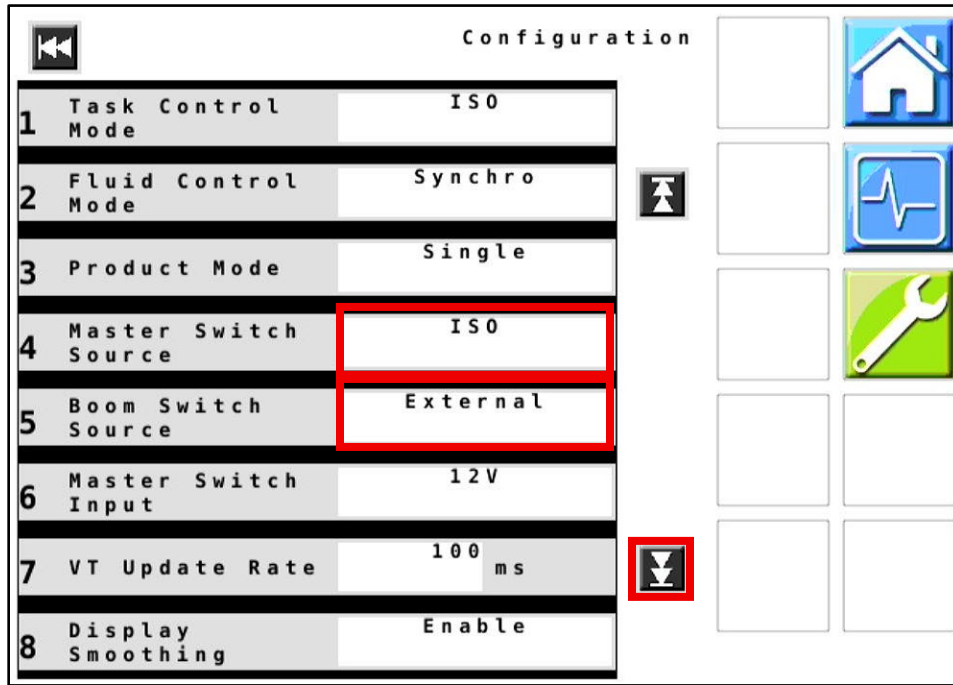

Figure 2 — Configuration Menu – Page 1
4. **Figure 2:** Change **Master Switch Source** to **ISO** and leave **Boom Switch Source** at **External**.